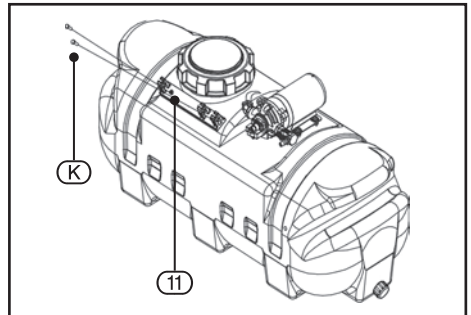

FIG. 9
- (I) Broadcast nozzle
- (J) Hose clamp x 2
- (K) Screw x 2
- (L) Broadcast fitting
9.7 ATTACH BROADCAST BRACKET TO TANK – FIG. 9